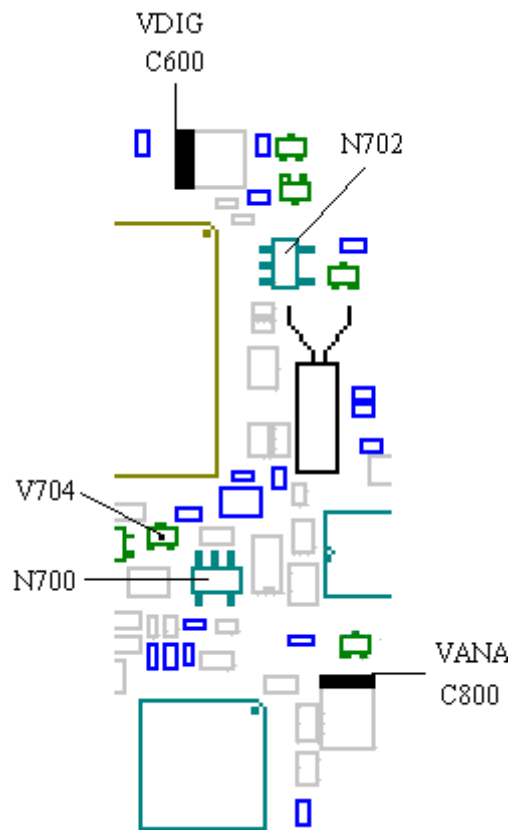
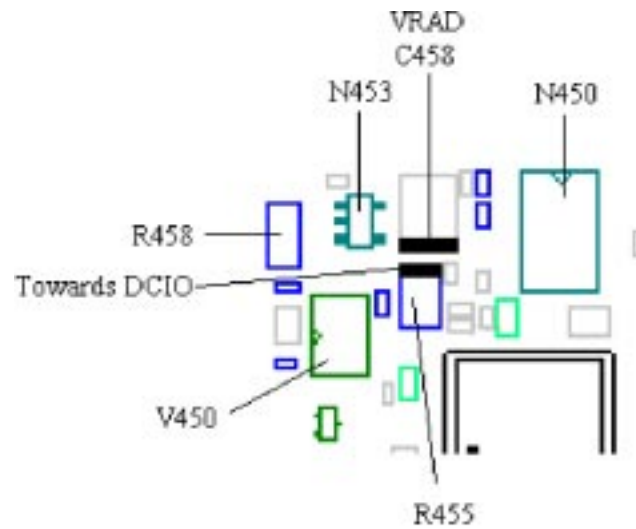

Fig. 4.2
Fig. 4.3
Give the board power and start it up using the On/Off key. Check the VDIG, VANA (~3.2V, fig. 4.2) and VRAD (~3.8V, fig. 4.3) feed voltages.
- If the resistance is too low, replace V450 (class A, fig. 4.3).
- If the resistance is too high, measure the resistance of R458 (class B, ~0.1 ohms, fig. 4.3) and R455 (class A, ~390 ohms, fig. 4.3).
- If the resistances are correct, measure the resistance from the marked side of R455 to DCIO (~0 ohms, fig. 4.3 and 4.5). If it is too high there's a foil damage and the phone is to be discarded.
Give the board power and start it up by grounding N450 pad 6 (fig. 4.3).
- If the phone doesn't start, replace V450 (class B, fig. 4.3). If that doesn't help, replace V704 (class A, fig. 4.2).
- If the resistance is too high, measure the resistances of R458 (class B, ~0.1 ohms, fig. 4.2) and R455 (class A, ~390 ohms, fig. 4.2). If they are correct, measure the resistance from DCIO to the marked side of R455 (~0 ohms). If it's too high there's a foil damage and the phone is to be discarded.